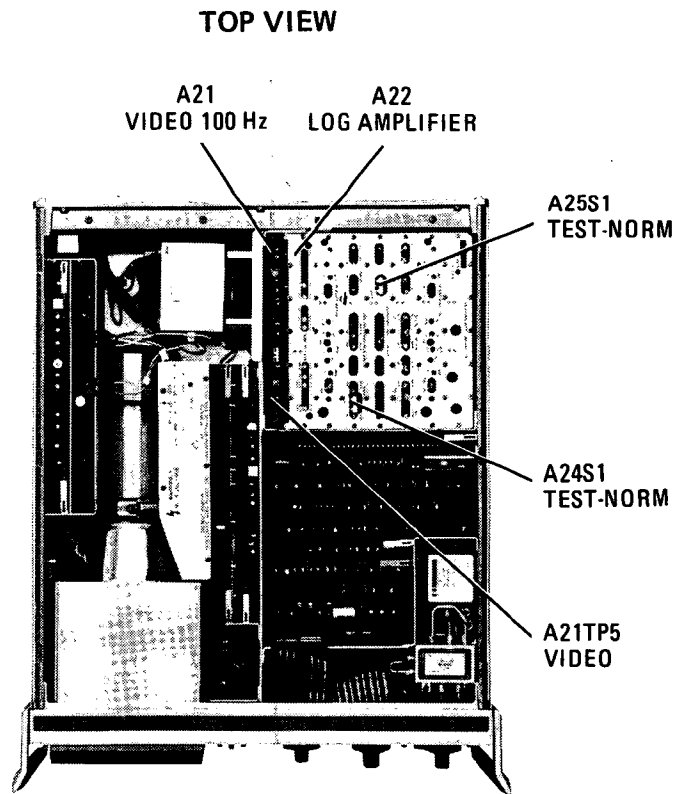

Figure 5-17. Log Amplifier Adjustment Locations
8. Adjust A22R23 SLOPE for a reading of 800 ± 1 mV, plus offset recorded in step 4, as measured at A21TP5 (Figure 5-17).